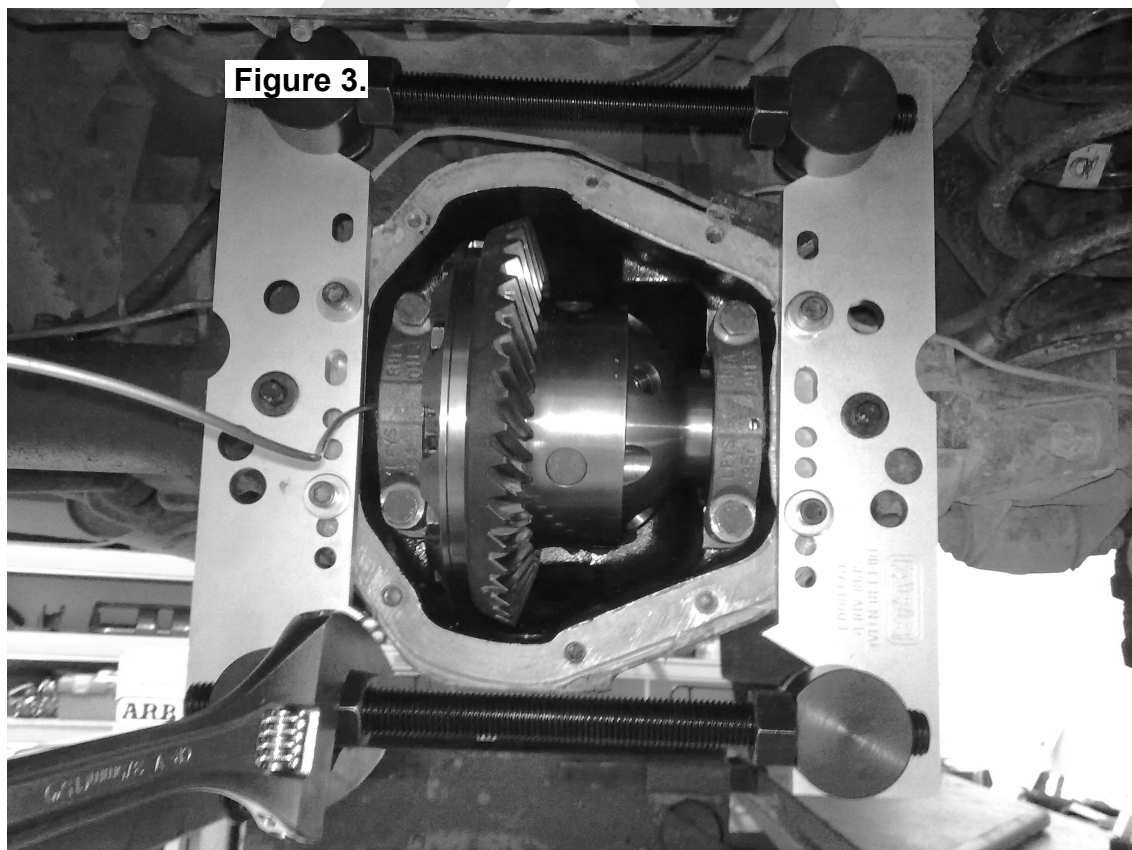

Figure 3.
Spreading the differential housing with a differential case spreader is a step which is critical to set up bearing pre-load (See Figure 3.). Improper pre-load will result in undue bearing wear, increased stresses in the differential center, increased running noise, and ultimately, ring and pinion gear damage.
- ☐ Carefully spread the housing (Fig.3.) enough to remove the differential center. (Refer to your vehicle's service manual).